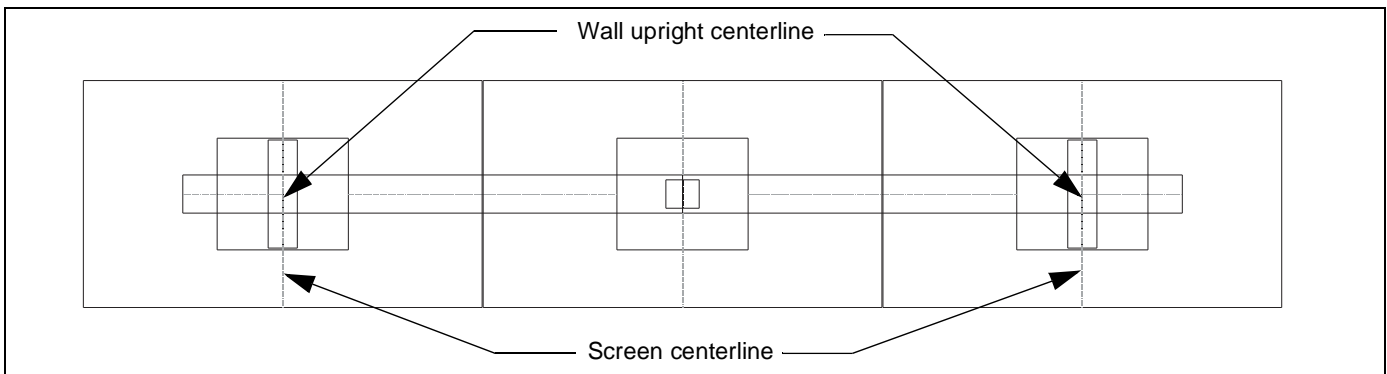

Figure 2
3. The **minimum wall attachment brackets spacing** (center to center) is when outside screens are centered on wall attachment brackets. The **centerline of outside screen must not be to the INSIDE of wall attachment brackets**. (See Figure 2)